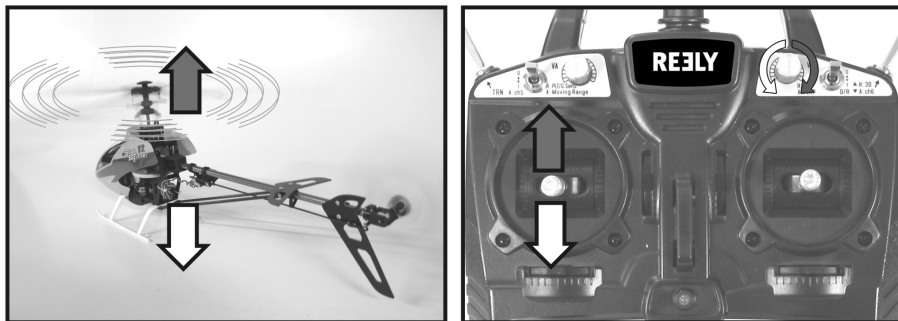

Figure 23
With the pitch function you can control the flying height of the helicopter (see figure 23). The left control stick (also see figure 1, item 14) is used for control. To that effect, the control stick can be moved forward and backward. Unlike the other control functions, the lever does not keep springing back to the centre position.